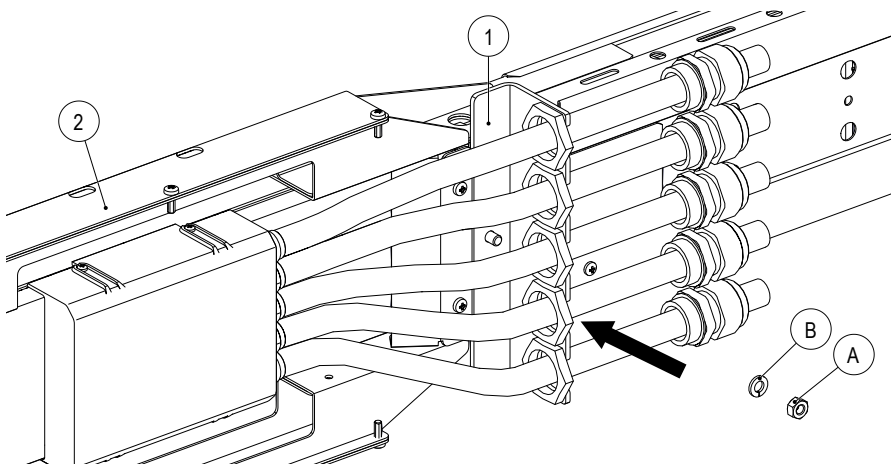

Fig. 69: Install strain relief plate (1)
- Slide the strain relief plate (1) onto the fastening frame (2) and behind the connecting cables (3) so that the individual connecting cables are seated in the protrusions of the strain relief plate (1) (see Fig. 69).